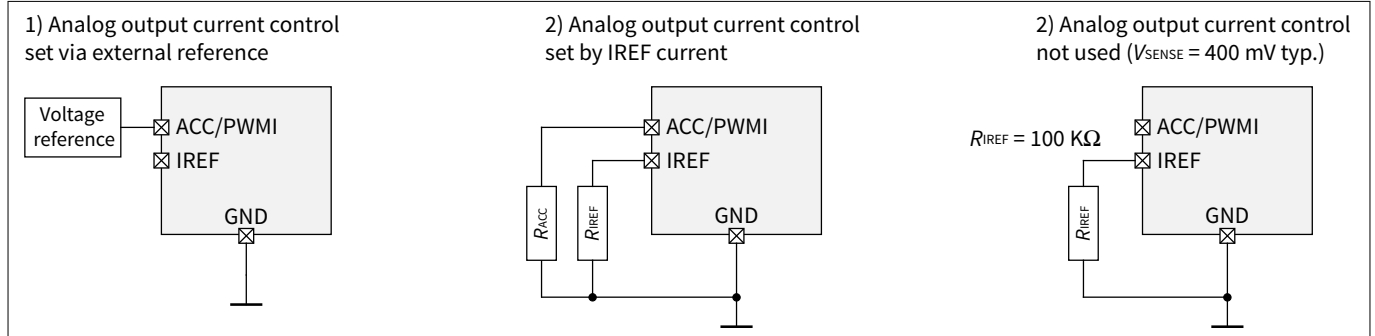

Figure 16 Analog output current control configurations
- If the ACC is connected to a voltage reference with low output impedance, as shown in Figure 16(1), the voltage V_{ACC} , is equal to the voltage reference. As it is expected, in this case it is not necessary to connect a resistor to the IREF pin
- If the ACC is connected to digital/analog dimming, as shown in Figure 16(2), the IREF pin provides current to the ACC/PWMI pin set by a resistor. The voltage on the $V_{ACC/PWMI}$ on this board is equal to:
- If the analog or digital current control is not needed, the ACC/PWMI pin stays open, as shown in Figure 16\(3\), then connect a high resistance to the IREF pin. In this way, the voltage on the ACC/PWMI pin reaches its maximum possible voltage